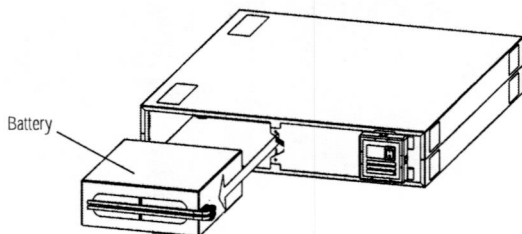

Fig. 29: Removing the Battery
4. Slide battery out (fig. 29).